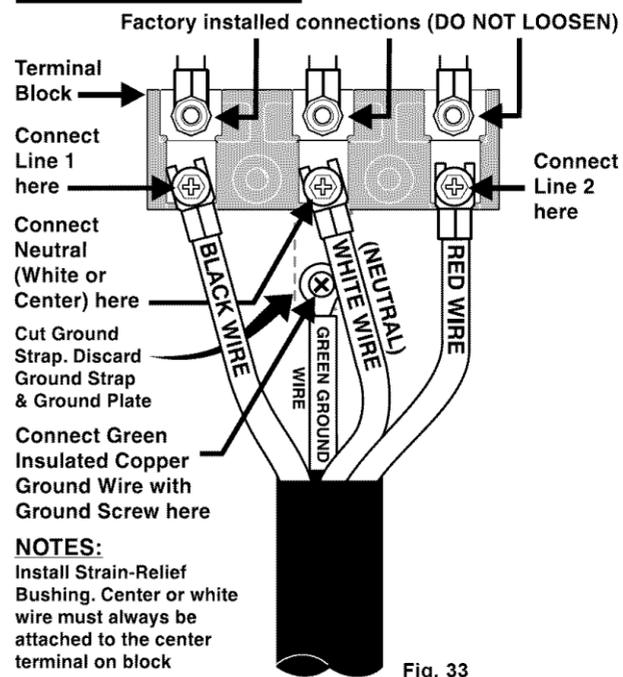

Fig. 33
## B Wiring Instructions (4-Wire Connection - See Fig. 33).
4. Connect the ground wire (Green) lead with the eyelet to the frame of the appliance with the ground screw using the same hole in the frame where the ground screw was originally installed (See Fig. 33).